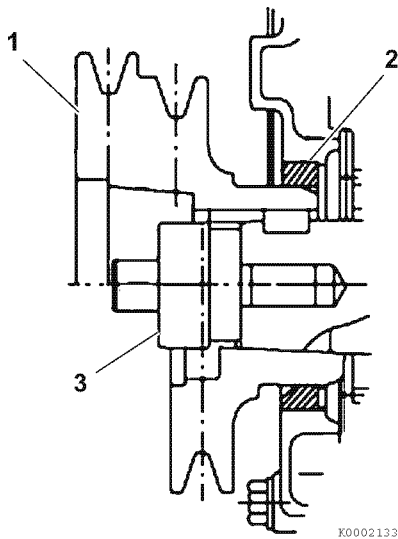

Figure 6-104
Use the crankshaft pulley installation tool (Figure 6-104, (3)) when reinstalling the pulley (Figure 6-104, (1)). The tool will guide the pulley hub and protect the front seal (Figure 6-104, (2)) from damage.